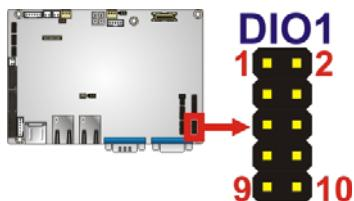

Figure 3-4: Digital I/O Connector Location
**CN Label:** DIO1**CN Type:** 10-pin header**CN Location:** See Figure 3-4**CN Pinouts:** See Table 3-5